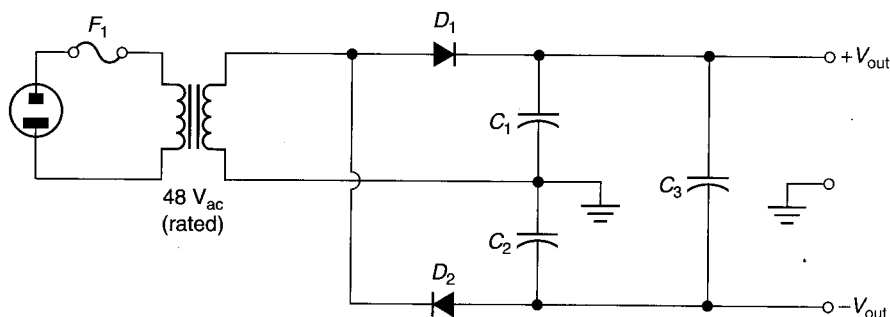

FIGURE 4.44
32. Determine the dc output voltage values for the dual-polarity power supply in Figure 4.44. Assume that the diodes are ideal components.
33. Assume that the transformer in Figure 4.44 is a  $36\text{ V}_{\text{ac}}$  transformer and that the diodes in the circuit are ideal components. Determine the dc output voltage values for the circuit.